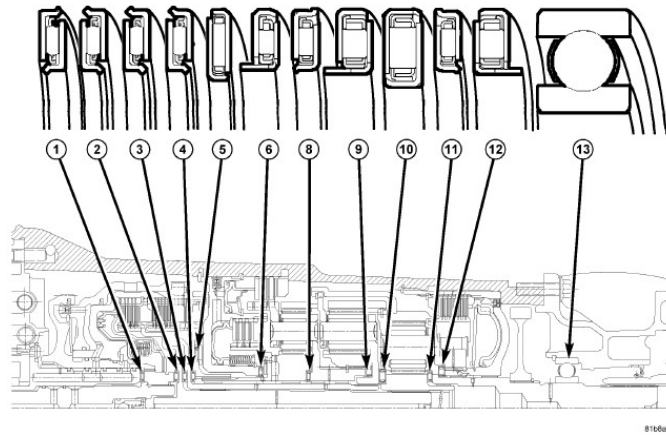

Fig. 9
17. Remove the number one thrust bearing from the input clutch assembly Fig. 9.